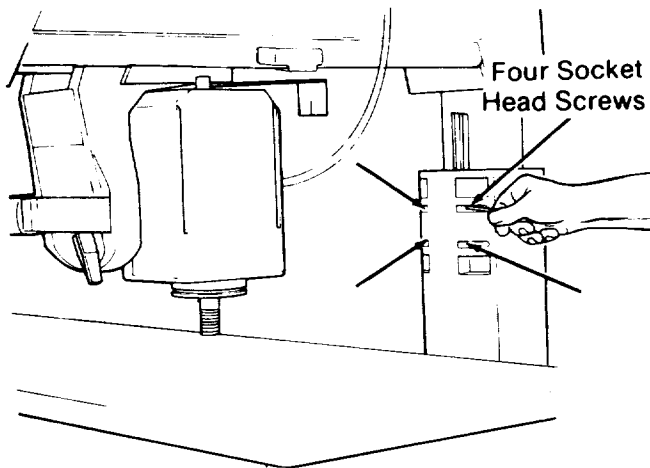

Fig. 84
11. Find the four screws in front of the *column support* (Figure 84). Use a 3/16" hex “L” wrench to adjust these screws as described below.